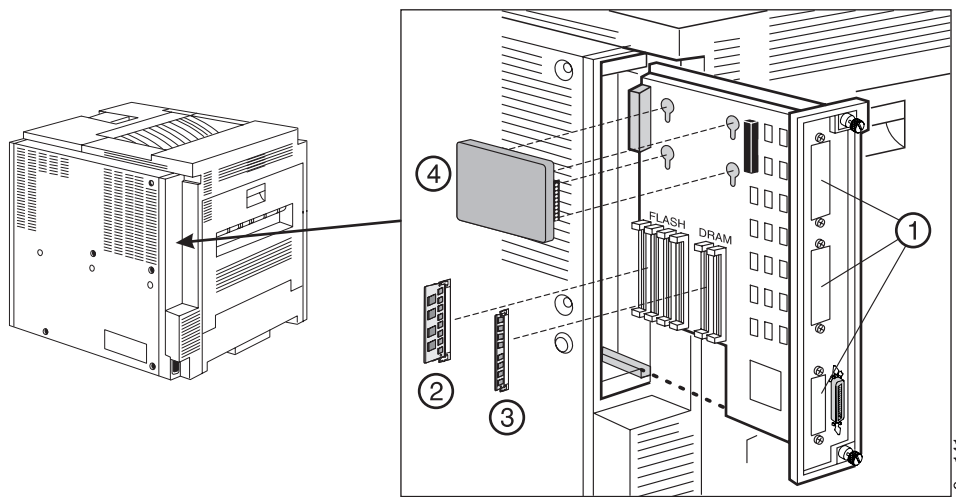

Figure 16. Controller Card Locations for SIMMs and Hard Drive Options
The following illustration shows the locations of the options you can install on the printer controller card. Use this illustration as a guide for locating and installing options, such as the hard drive. (To locate where the printer controller card on the printer, see Figure 16 on page 154.)
5. Locate the correct socket for the type of SIMM you are installing. The SIMM sockets are labeled **FLASH** and **DRAM**. (See Figure 16 on page 154 for location.) Your optional SIMM works only if it is installed in the correct socket.
8. Position the hard drive with the four screws facing the four matching holes on the controller card. (See Figure 16 on page 154 for location.)
9. Push the hard drive firmly into the card and slide the hard drive slightly down and toward the connector (1). The pins (2) on the hard drive should be firmly seated in the connector (1).